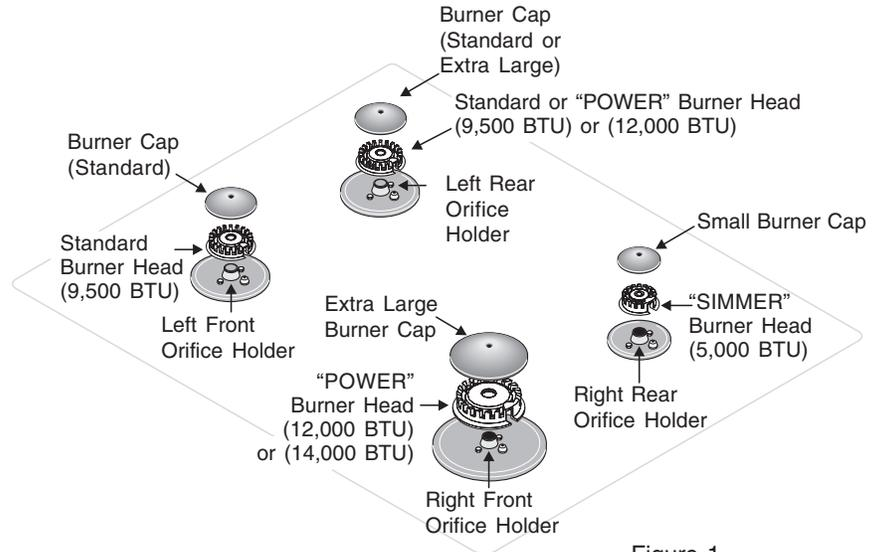

Figure 1
When setting up the range for the first time, make sure that the correct Burner Heads, Burner Caps and Burner Grates are located as shown in Figure 1.
1. Place all 4 Burner Heads in the correct locations (See Figure 1). Make sure that the correct Burner Head is placed with the corresponding Orifice Holder and that the Electrode is located properly in the slot of each Burner Head (See Figure 2). Proper Burner Head placement insures that each Burner will have the correct spark required for surface gas ignition.